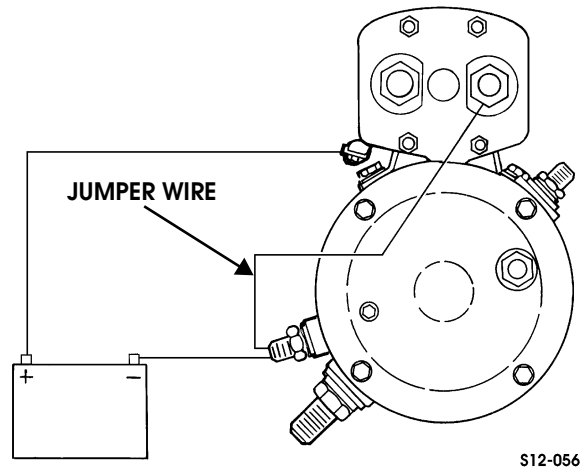

Figure 12-68: Battery and Jumper Connections for Pinion Clearance Check
1. Connect battery and jumper to starter as shown (Figure 12-68). Momentarily touch jumper to solenoid frame to shift pinion into cranking position.